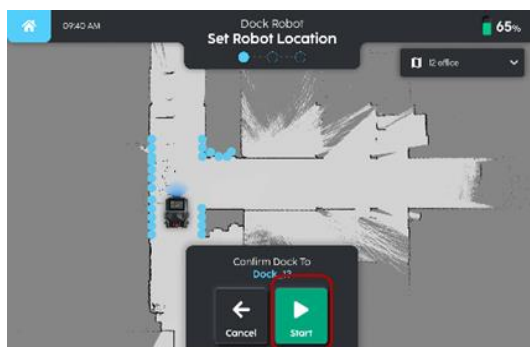
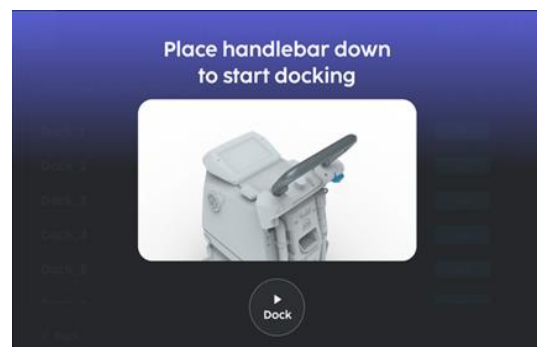

FIGURE 3-19
FIGURE 3-20
Press 'Start' (Fig. 3-19). If the handlebar is not yet down, place it down as prompted (Fig. 3-20) and docking will begin.
7. A loading screen is displayed followed by a prompt to place handle bar down to start charging (Fig. 3-20).